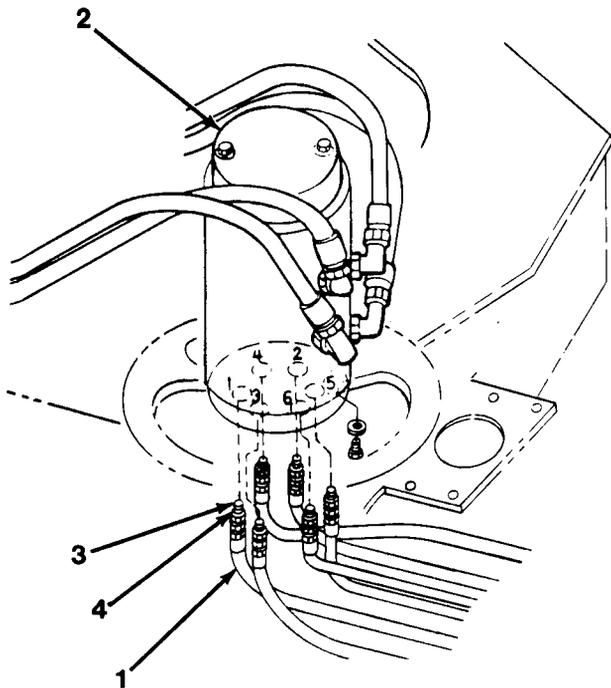

Figure 18-1
6. Disconnect six hoses (1) from bottom of manifold (2). Remove six adapters (3) and O-rings (4, Figure 18-1) from bottom of manifold (2),